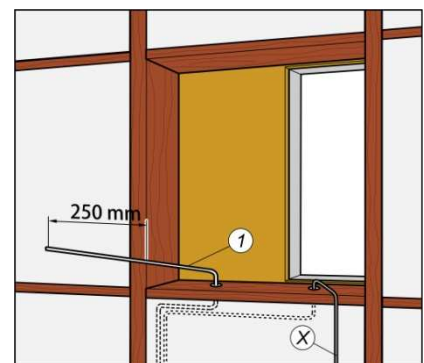

Abb. 2
- Cut out a cable duct for the connection cable (1).
- Lay the connection cable according to Abb.2)